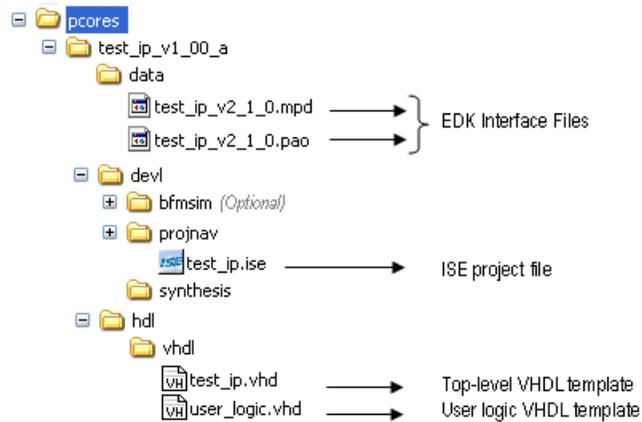

Figure 5-2: Directory Structure Generated by the CIP Wizard
1. In XPS, select **File > Open** and navigate to the `pcores\test_ip_v1_00_a\hdl\vhd1` directory. Here you will find two files as listed in Figure 5-2, page 41: the `test_ip.vhd` file and the `user_logic.vhd` file.